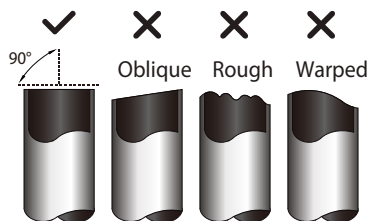

Fig. 47 — Pipe Cutting
- Cut the pipe, with a pipe cutter, at 90 degrees (see Fig. 47).